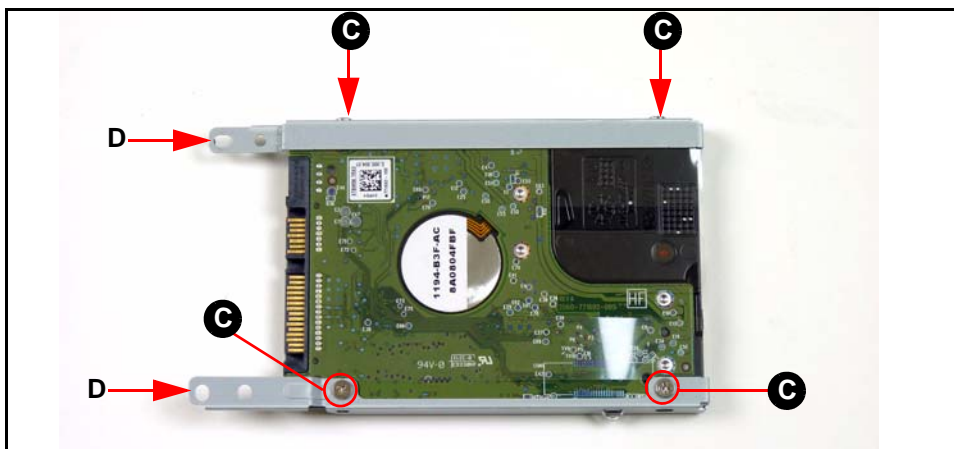

Figure 3-15. HDD Module
5. Remove four (4) screws (C) from HDD bracket (D). (Figure 3-15)
1. Put HDD brackets onto HDD module. (Figure 3-15)
2. Install four (4) screws (C) to secure HDD brackets (D) to HDD module. (Figure 3-15)